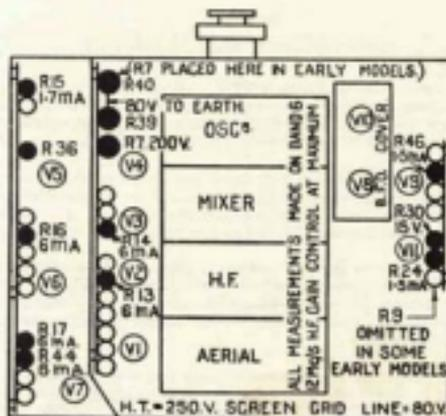

Fig. 9. Plan of Underside showing Test Points.
Fig. 9, above, shows the position of the various anode and cathode resistances and the values of current or voltage obtained with maximum H.F. gain. For convenience, these and other readings obtained are tabulated opposite (see Table 5). An Avometer or Avominor, or other simple test meter should be used. In the case of the 1st Oscillator (V4), measure the D.C. voltage drop across the Anode resistance, R7 on diagram. As indicated on Fig 9, the position of this resistance has been changed slightly since the earliest models were introduced. It is easily recognised by its size and colour (red, 3 watt type). On the output valve V9 measure the D.C. voltage drop across the cathode resistance, R30 on diagram. On all other valves the approximate anode feed is obtained by connecting the milliammeter in shunt with the anode decoupling resistance. Care should be taken after clipping the positive lead of the meter to H.T. + not to let the negative lead touch the chassis or a point of low D.C. potential, and for this reason the negative lead should have a "probe" connection. It is preferable to use a meter which is fitted with a fuse or automatic cut-out.
**Voltage and Current Check.** (See Fig. 9, page 14.)
Third : If a test meter is available, do not spend too much time on preliminaries, but carry out voltage and current checks (see Fig. 9 and Table 5) and make use of Table 6 (page 17) and the circuit diagram to test circuits for resistance and continuity.